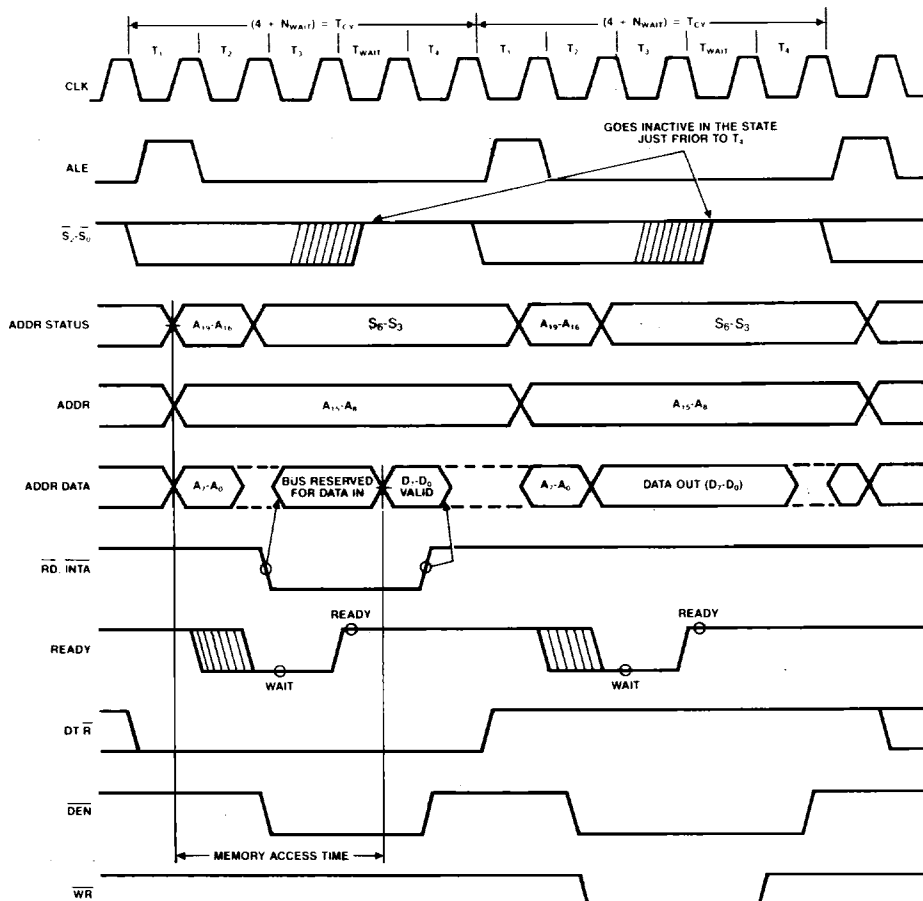

FIGURE 5. BASIC SYSTEM TIMING
Each processor bus cycle consists of at least four CLK cycles. These are referred to as T₁, T₂, T₃ and T₄. (See Figure 5). The address is emitted from the processor during T₁ and data transfer occurs on the bus during T₃ and T₄. T₂ is used primarily for changing the direction of the bus during read operations. In the event that a "Not Ready" indication is given by the addressed device, "wait" states (T_{wait}) are inserted between T₃ and T₄. Each inserted "wait" state is of the same duration as a CLK cycle. Periods can occur between 80C88 driven bus cycles. These are referred to as "idle" states (T_i), or inactive CLK cycles. The processor uses these cycles for internal housekeeping.
The read cycle begins in T1 with the assertion of the address latch enable (ALE) signal (See Figure 5). The trailing (low going) edge of this signal is used to latch the address information, which is valid on the address data bus (AD0-AD7) at this time, into the 82C82/82C83 latch. Address lines A8 through A15 do not need to be latched because they remain valid throughout the bus cycle. From T1 to T4 the IO/M signal indicates a memory or I/O operation. At T2 the address is removed from the address data bus and the bus is held at the last valid logic state by internal bus-hold devices. The read control signal is also asserted at T2. The read (RD) signal causes the addressed device to enable its data bus drivers to the local bus. Some time later, valid data will be available on the bus and the addressed device will drive the READY line HIGH. When the processor returns the read signal to a HIGH level, the addressed device will again three-state its bus drivers. If a transceiver (82C86/82C87) is required to buffer the local bus, signals DT/R and DEN are provided by the 80C88.